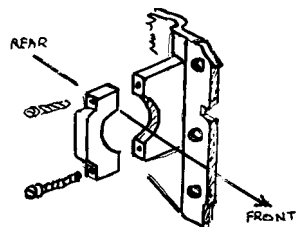
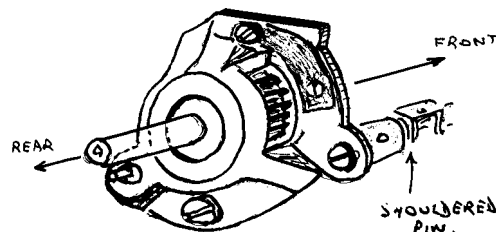

Fig 1
Fig 2
It will be either as the Fig 1. or Fig 2.
USING THE CREED METHOD ON TAPE READERS See Figure 1.
3. Remove the two screws securing the bearing clamp (see Fig 1.) and remove the key from the keyway and also the REAR BEARING.
The SPLIT BEARING CLAMP of READERS as FIG 1. has the advantage that the adjustments are not disturbed. The three readers that I have seen have had serial numbers below 22,000 and have all been as FIG 2.
TAPE READERS corresponding to FIG 2. have a one-piece BEARING HOUSING and disturb THREE adjustments, two are minor, and one is VERY IMPORTANT.